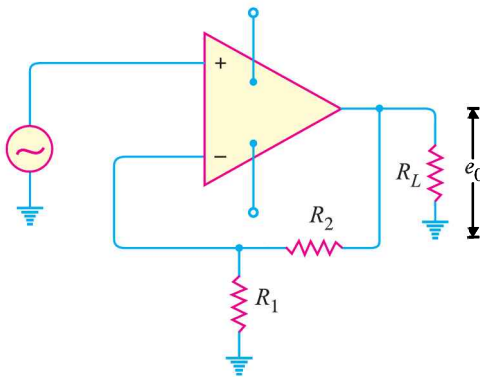

Fig. 13.30
6. Fig. 13.30 shows the negative feedback amplifier. If the gain of the amplifier without feedback is 10^5 and $R_1 = 100 \Omega$, $R_2 = 100 k\Omega$, find (i) feedback fraction (ii) gain with feedback.